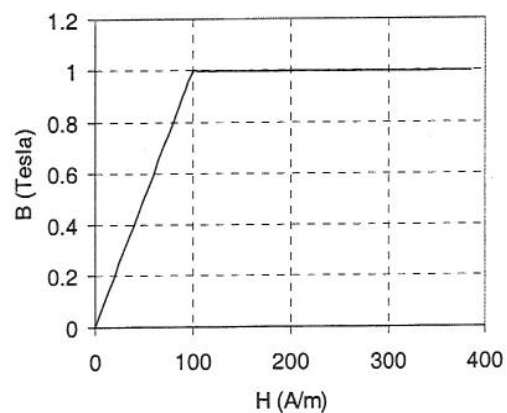

Figure 4.2
b) Assume now that the core has a B - H characteristic as shown in Fig. 4.2, i.e. linear up to $H = 100 \text{ A/m}$, and saturated at $B = 1 \text{ T}$ for $H > 100 \text{ A/m}$. Calculate: